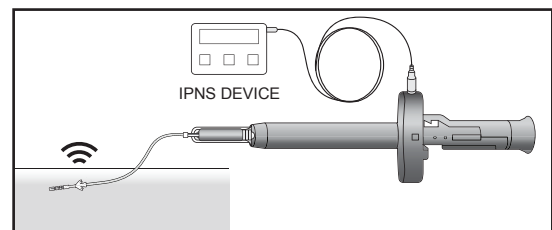

Figure 11: Attach the Stimulation Cable to the Pulse Generator/Receiver Attachment Tool.
2. Attach the white end of the Stimulation Cable to the testing pin of the Pulse Generator and Receiver Attachment Tool and the yellow end of the cable to the non-sterile IPNS being operated by a non-sterile team member. Yellow cable should already be in place from StimRouter procedure. Confirm that the output amplitude of the IPNS is set to zero. See Figure 11.